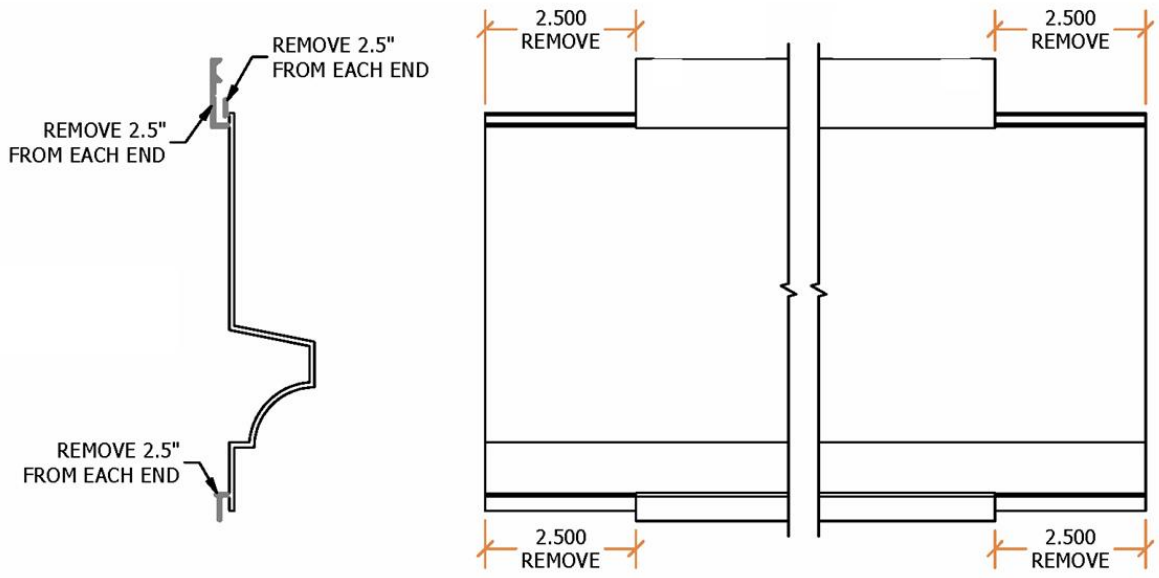
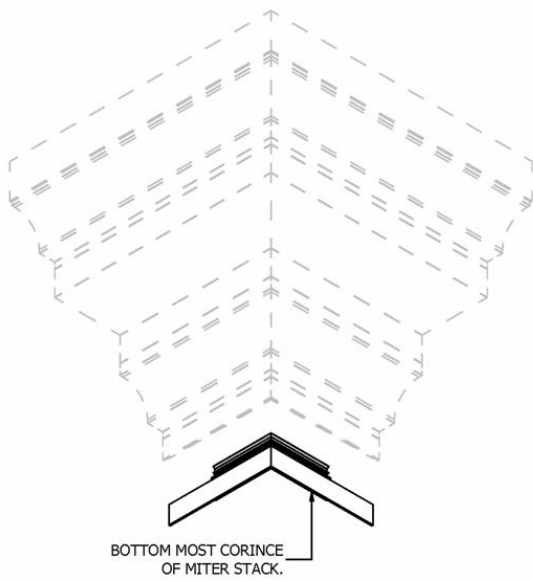

Figure 1
Figure 2
3. Factory cut and welded miters may have been supplied. If not, field cut miters and drill a .1875" diameter hole at all fastening locations. Determine location of bottom most cornice miter (fig. 2) and fasten with stainless steel, type 304, #10-24 x 0.75" machine screws with nylon core hex lock nuts. (fig 12) (For use with all cornice to gusset mountings, aluminum rivets may also be used) Use supplied angle connectors, VHB tape and hardware to mechanically fasten and form miters. (fig. 5) Caulk or touch up miter work as required.
3. Determine length of first cornice stack. Cut mouldings to length, remove 2 1/2" from the fastening and locking flanges at each end for splice plate. (fig. 1) Be sure to calculate for the 3/8" joint expansion reveal between stacks. Apply touch up paint to cut cornice as needed.
2. Factory cut and welded miters may have been supplied. If not, field cut miters and drill a .1875" diameter hole at all fastening locations. Remove 2 1/2" of the cornice moulding fastening and locking flanges at each end to accommodate splice plates. (fig. 1) Determine location of bottom most cornice miter (fig. 2) and fasten with #8 x 1 1/2" stainless screws.